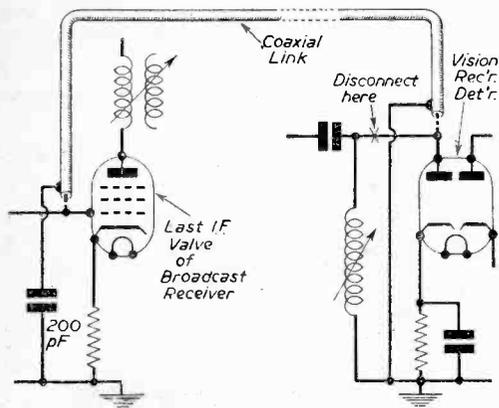

Fig. 3.—How to couple the I.F. stages of a video receiver to a radio set.
8. If the above test is O.K. then the detector circuit must be checked. A rough test can be made by disconnecting the tuning coil, and injecting a source of modulated R.F. This can be done by using the broadcast receiver in a similar manner to section 7, but this time a tap is taken from the grid of the last I.F. valve (this point is chosen for simplicity), and inject it into the input of this detector valve. The connection between the two units should be made with coaxial cable. Fig. 3 shows the